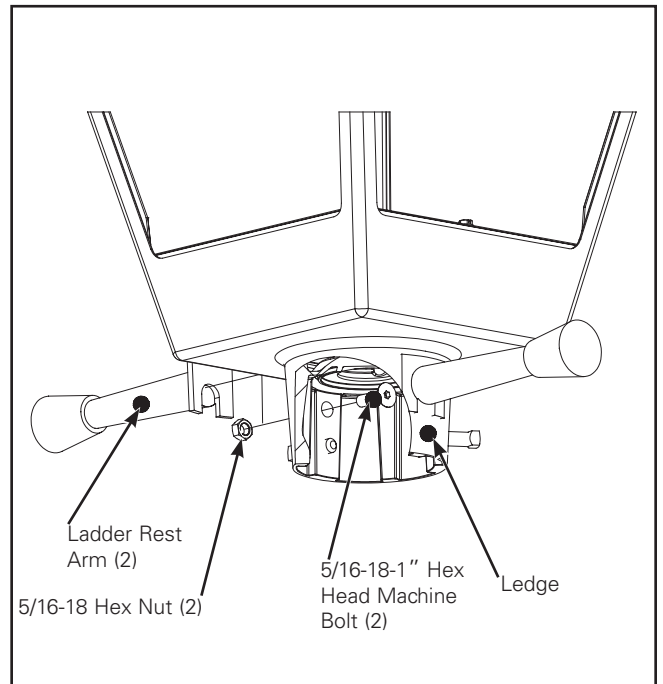

Figure 7.
4. Tighten hex head machine bolt from within fixture base. (Figure 7.)